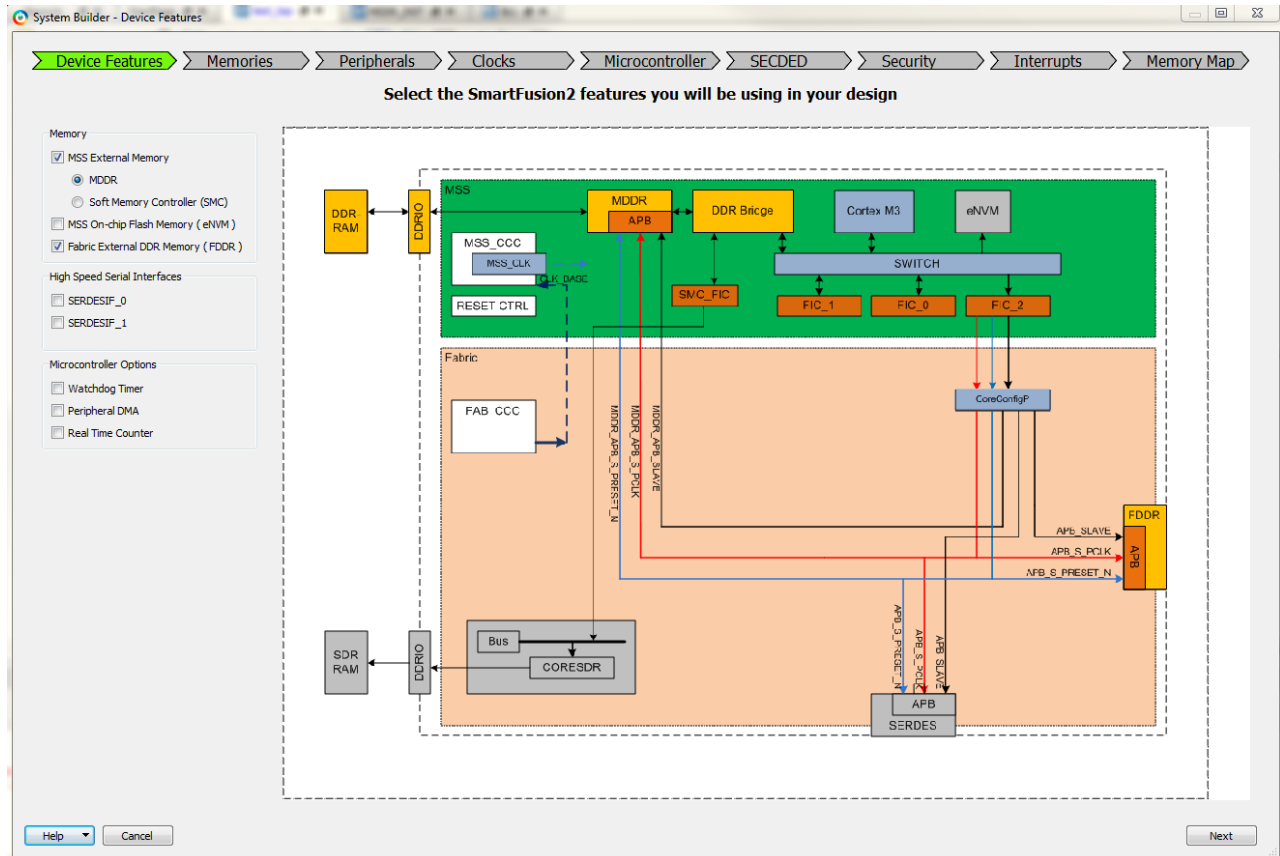

Figure 3 • System Builder Device Features Page
1. In the **Device Features** page (Figure 3), specify which DDR controllers are used in your design.
In the Device Features page, specify which DDR controllers (MDDR and/or FDDR) are used in your design (Figure 3).